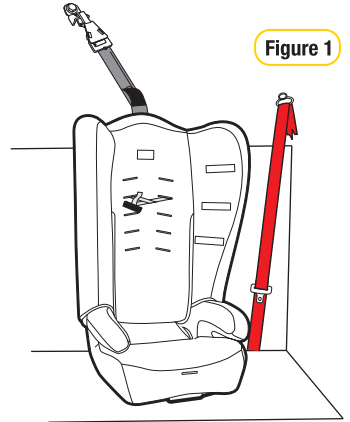

Figure 1
- Step 1:** Place the child restraint in the car, in a forward facing seating position (Refer to Figure 1)